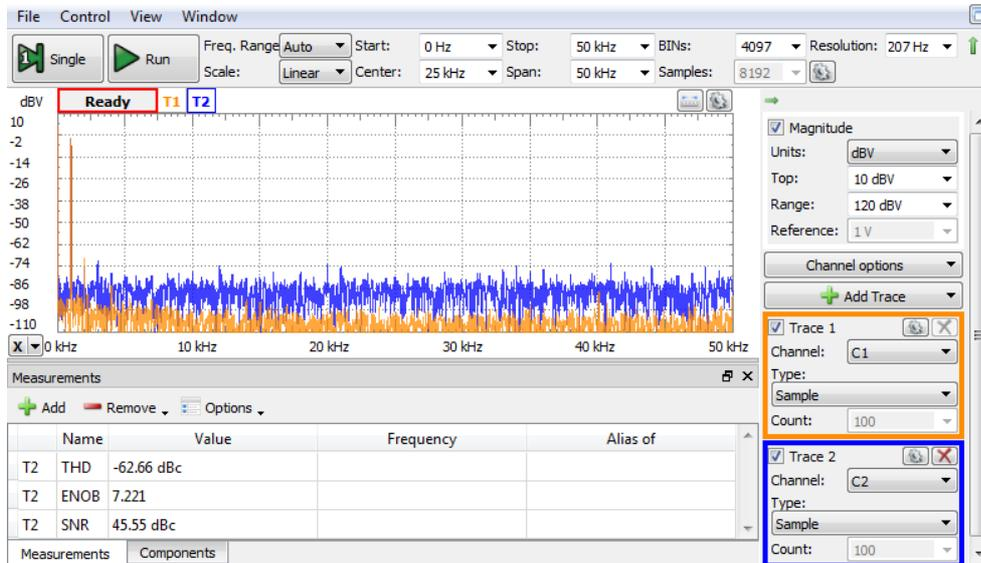

Figure 6.16 Unipolar Up/Down Counter ADC – Spectrum of the re-constructed signal
- V_{Do} looks very close to V_{in} . The spectrum and measurements in Figure 6.16 show much higher quality acquisition, compared to the Counter ADC.